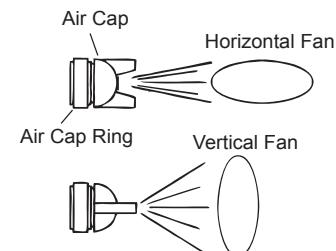

Figure 4
- 1. Adjust the directions of the air cap to be either horizontal or vertical as required by loosening the air cap ring 90 degrees with hand. Hand tighten the air cap ring after adjustment. (See Figure 4)